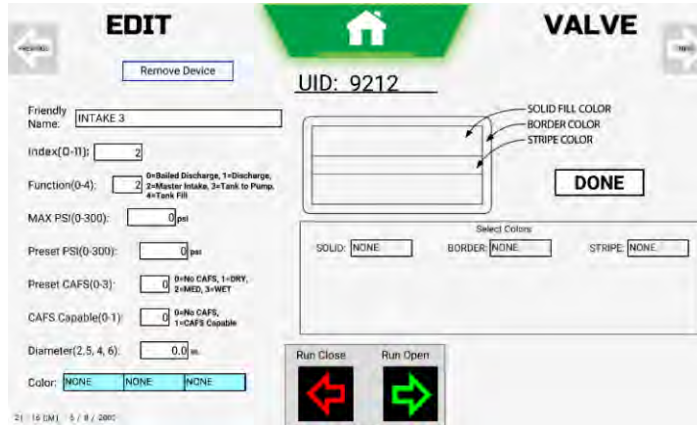
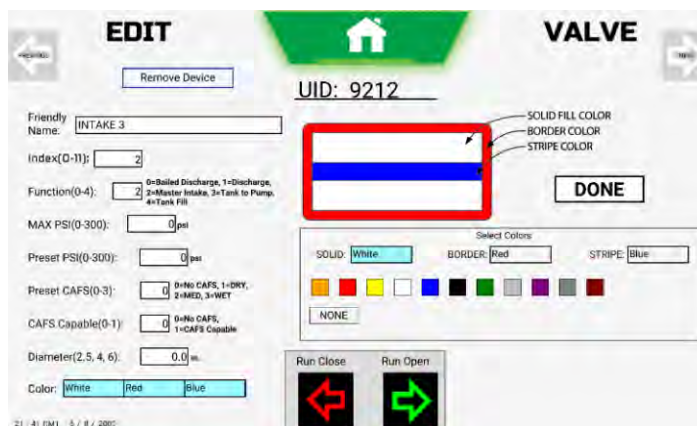

Figure 162. Valve Edit – Color Assignments
Figure 163. Color Assignment Swatches
After selecting the desired valve, touch any one of the three (3) color text boxes (Figure 162). The colors for the icons boarder and/or the solid fill can be assigned. Additionally, a stripe of color can be assigned. Any of the colors to be assigned may be selected from the color swatches when displayed (Figure 163).